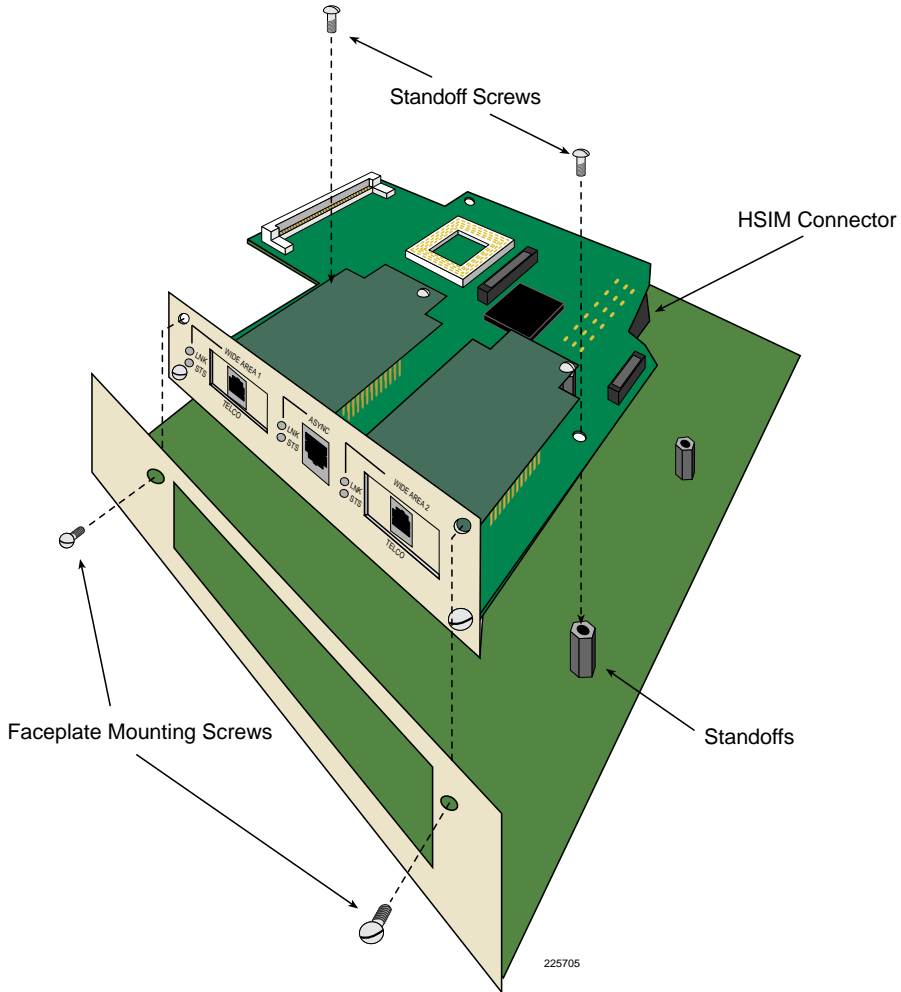

Figure 15 Installing the HSIM
To install an HSIM in a module that supports HSIM technology refer to **Figure 14** and **Figure 15** and complete the following steps:
7. Place the HSIM behind the module faceplate. See **Figure 15**.
To install an HSIM into a SmartSWITCH chassis that supports HSIM technology refer to **Figure 14** and **Figure 15**, and perform the following steps:
7. Place the HSIM behind the chassis faceplate. See **Figure 15**.